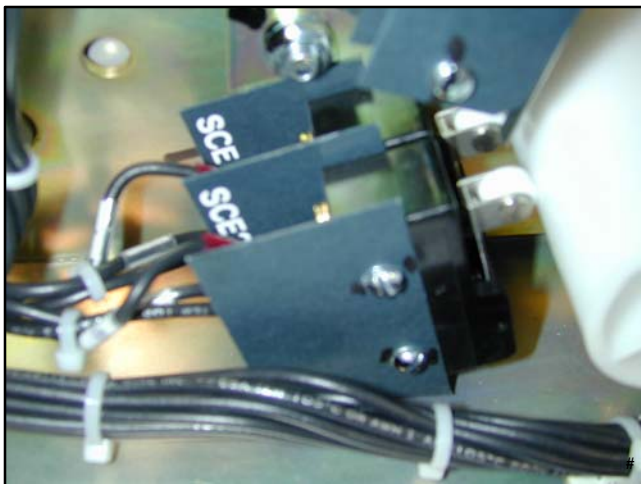

Figure 7-44 Microswitch Holding Screws
7. Remove the microswitch holding screws. See Figure 7-44.